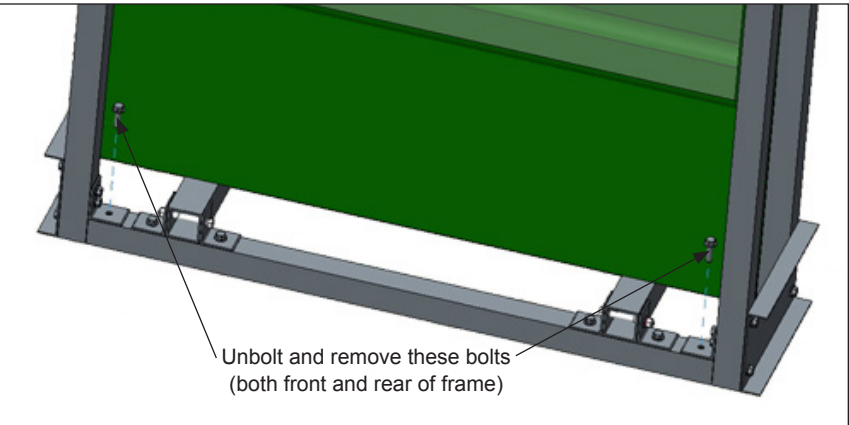

Figure 5: Unbolting Side Panel Assemblies
- 3. Unbolt the side panel assemblies from the base assembly at two locations front and rear. Refer to Figure 5.